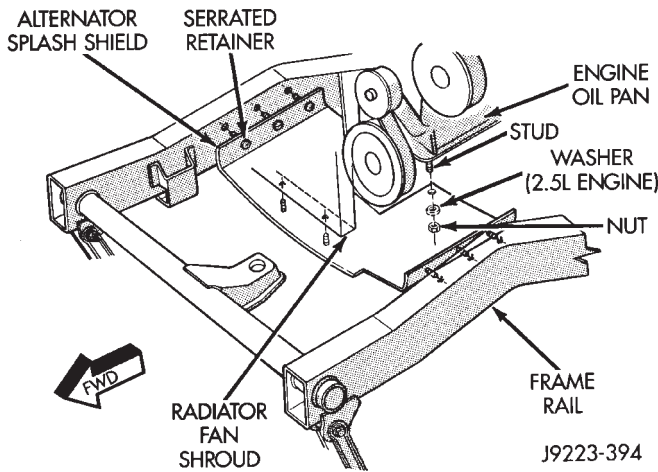

Fig. 2 Generator Splash Shield
(1) Remove the shield retaining nut and washer (Fig. 2) from the engine oil pan stud (2.5L engines only).
- (2) Pry the serrated retainers from the frame rail holes at each side of the vehicle.
- (3) Pry the serrated retainers from the fan shroud holes (Fig. 2).
- (4) Remove the shield from the vehicle.